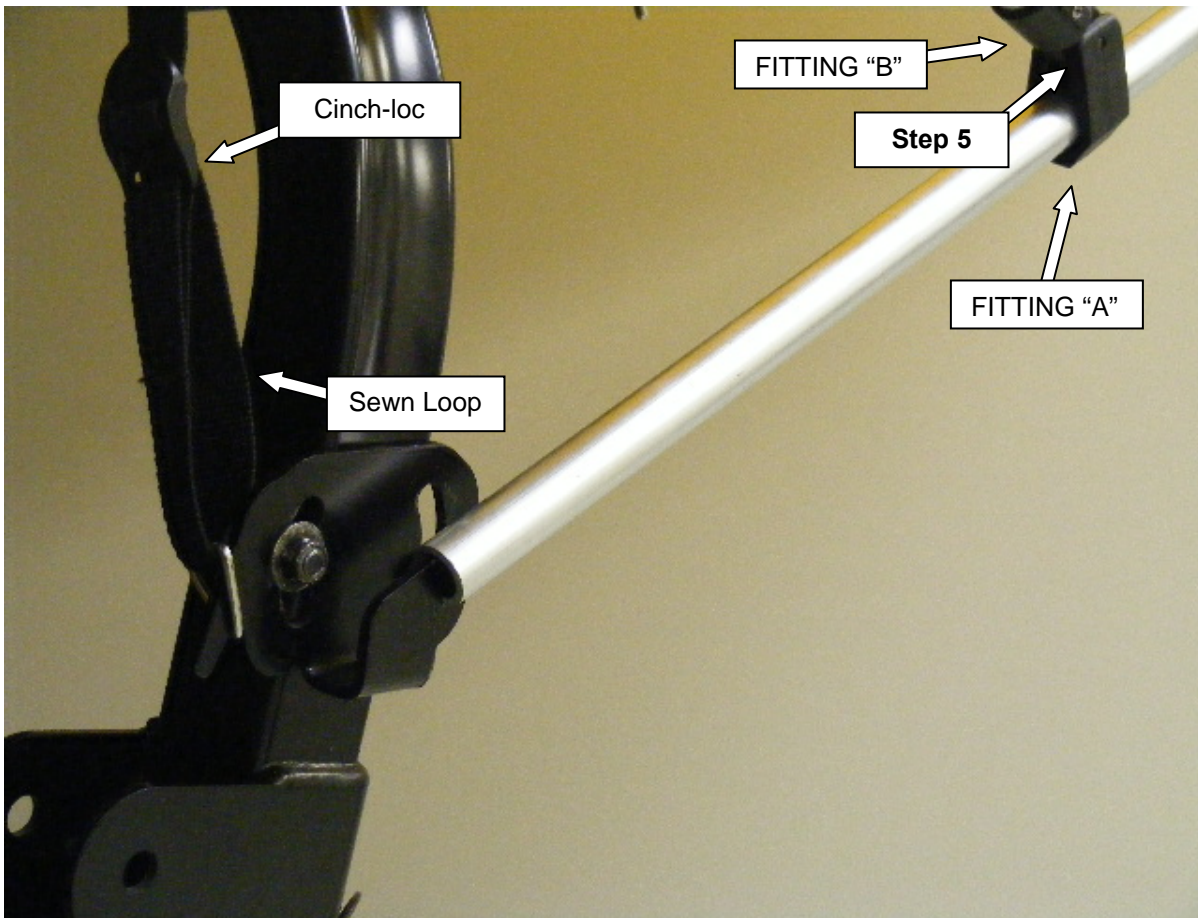

FIGURE 2
5. Remove screw from fitting "A". Align holes on fittings "A" and "B" and re-install screw (**Figure 2**).